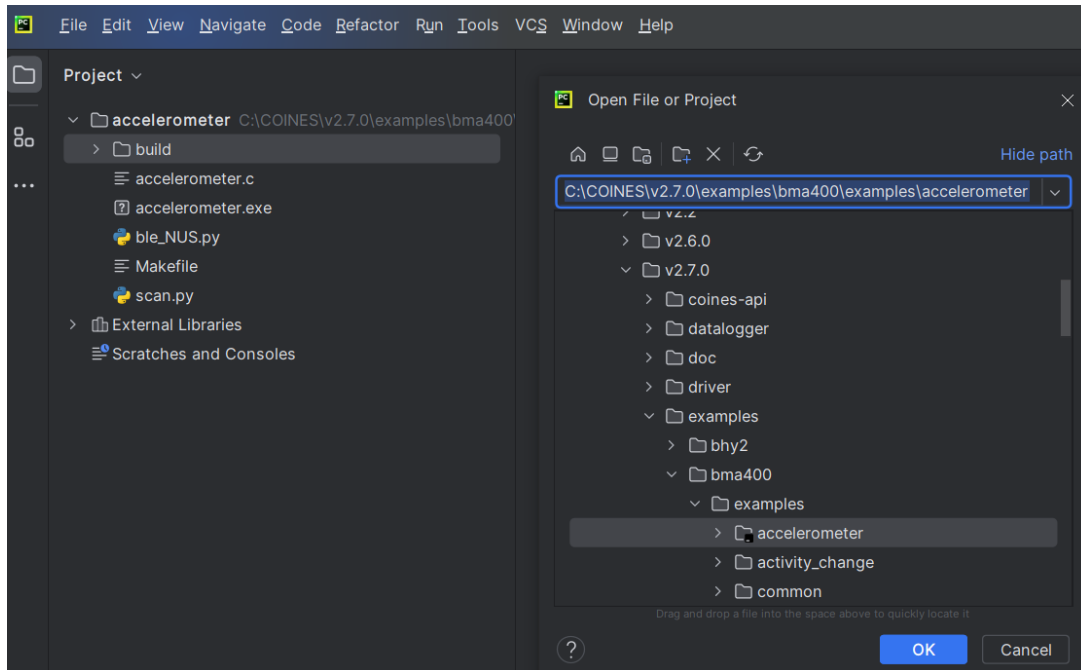

Figure 11 Locate BMA400 example folder in PyCharm
- In PyCharm window click menu “File -> Open...” and then locate the COINES folder where two Python files have been copied and pasted as shown in Figure 11.